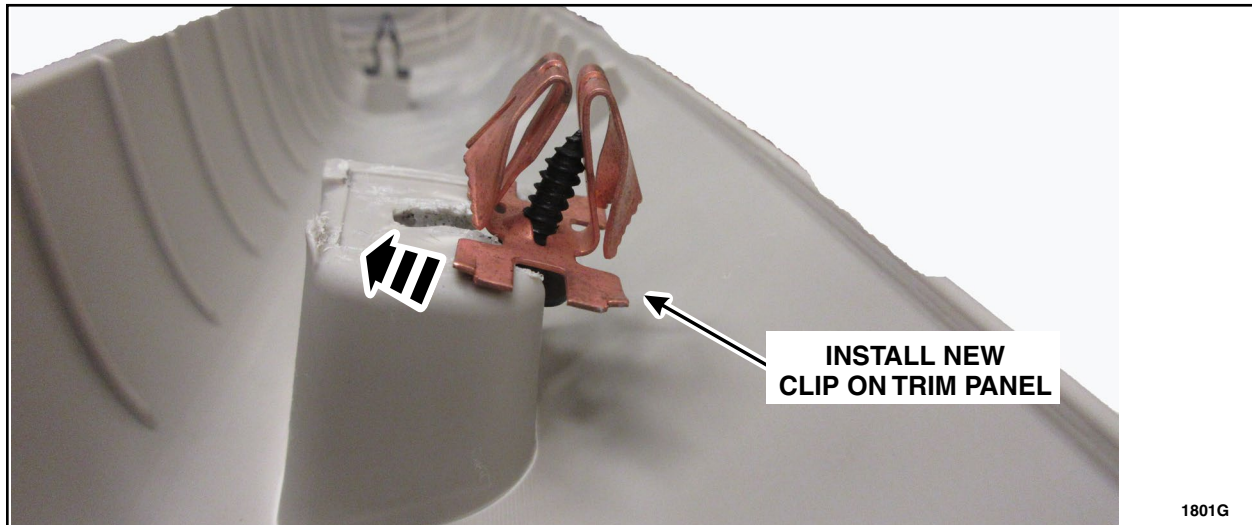

FIGURE 7
8. Install the new A-Pillar trim panel clip onto the trim panel. See Figure 7.